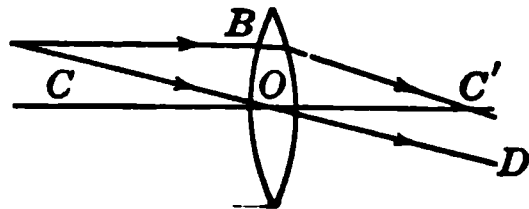

FIG. 313. — Terms defined.
341. Definition of Terms. In most lenses there are two centers of curvature, CC' , Fig. 313. The principal axis joins them. *In lenses the secondary axes pass through the optical center of the lens; the optical center O practically coincides with the geo-*
342. Images Formed by Lenses. Convex lenses form images in almost the same manner as concave mirrors; concave lenses are analogous to convex mirrors in the manner in which they form images. The student must keep in mind several differences between lenses and mirrors: (1) Secondary axes of lenses pass through the optical center and not through the center of curvature. In Fig. 313 the line *AD* is a secondary axis. (2) The principal focus is at or near the center of curvature; the focal length is practically equal to the radius, whereas in mirrors it is equal to half the radius. (3) Since the image is formed by rays of light that pass through the lens, a real image is formed on the opposite side of the lens from the object, just the reverse from mirrors. Virtual images formed by lenses appear to be on the same side of the lens as the object. In constructing images formed by lenses, we draw two lines from each point just as we did in the case of mirrors. One of these lines may be the secondary axis; the other a ray parallel to the principal axis which passes through the principal focus after it is refracted by the lens. The image of *A* in Fig. 313 will be formed beyond the lens where the ray *AB*, refracted along the line *BC'*, meets the secondary axis *AD*.